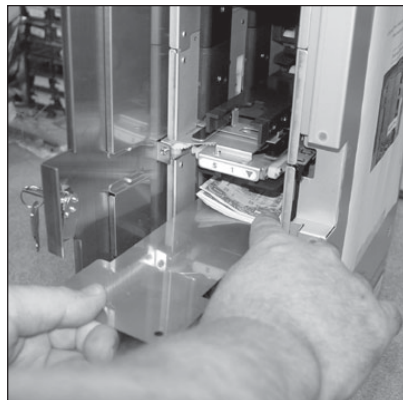

Figure 5
4. Keeping a finger on the stack of notes, gently slide the note-stacking tool out of the AD-02 (Fig. 5)